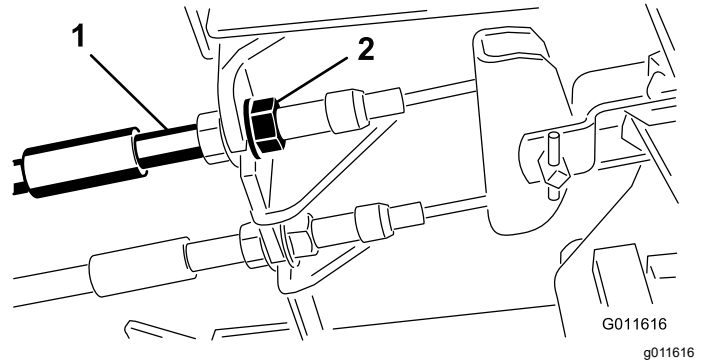

Figure 46
- To reduce free travel of the brake pedals, tighten the brakes by loosening the front nut on the threaded end of the brake cable (Figure 46).